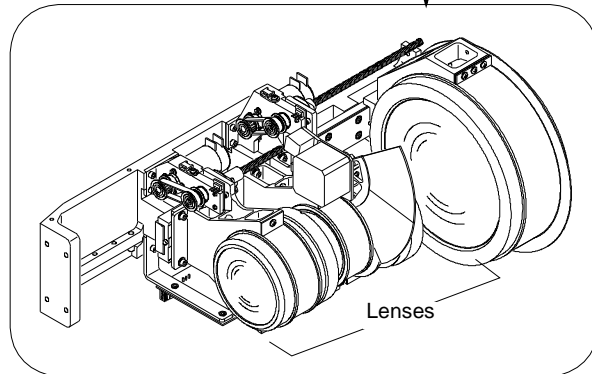

Figure 3-8: Accessing Zoom Lens Assembly
- Step 2. Remove R1-side head cover to access Zoom Lens Assembly (head cover doors have a label to identify them). See **Figure 3-8** on page 36.